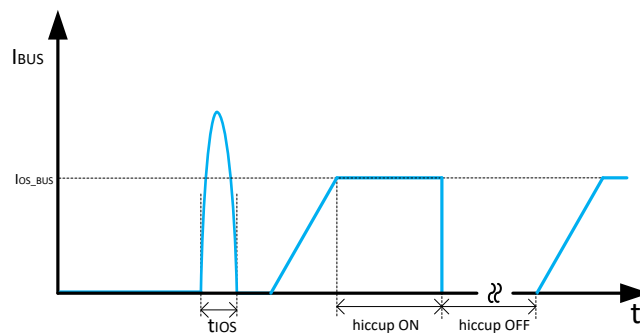

Figure 10-11. Response Time to BUS Short-Circuit
- The first condition is when a short circuit or overload is applied to the USB output when the device is powered up or enabled. There can be inrush current and once it triggers the approximate 8-A threshold, a fast turnoff circuit is activated to turn off the USB power switch within t_{IOS_USB} before the current limit control loop is able to respond (shown in Figure 10-11). After the fast turnoff is triggered, the USB power switch current-sense amplifier is over-driven during this time and momentarily disables the internal N-channel MOSFET to turn off USB port. The current-sense amplifier then recovers and ramps the output current with a soft start. If the USB port is still in overcurrent condition, the short circuit and overload hold the output near zero potential with respect to ground and the power switch ramps the output current to I_{OS_BUS} . If the overcurrent limit condition lasts longer than 4.1 ms, the corresponding USB channel enters hiccup mode with 524 ms of off-time and 4.1 ms of on-time.